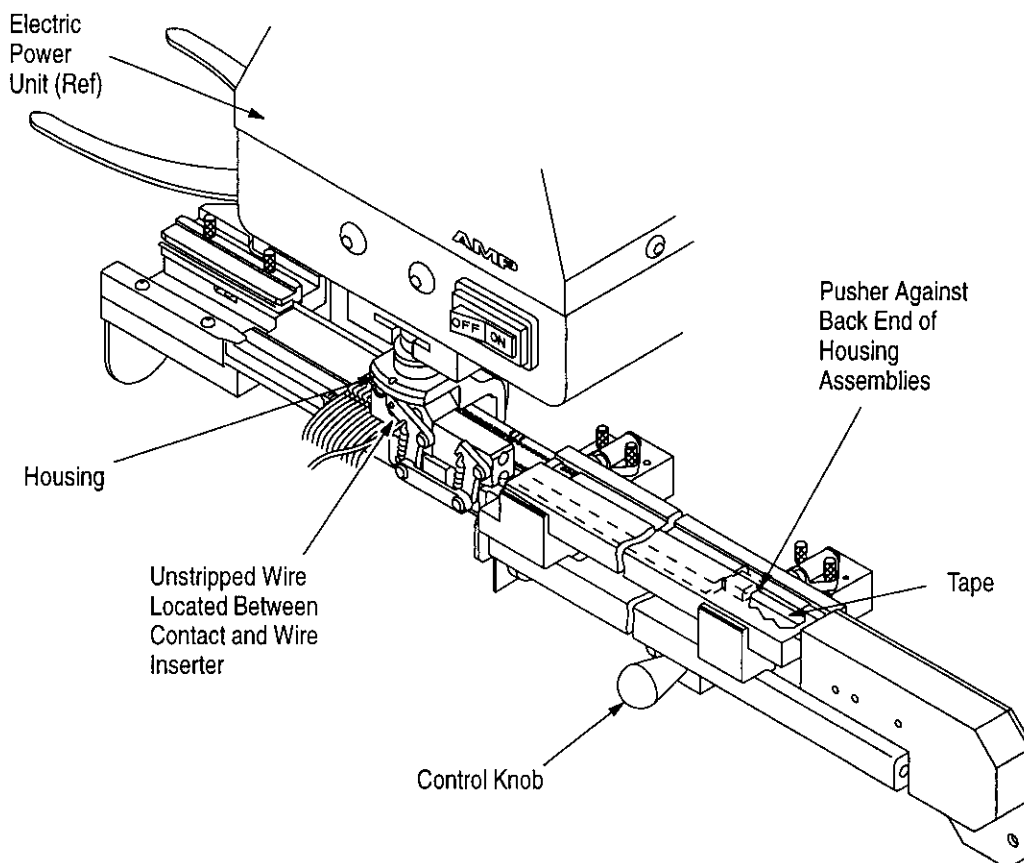

Figure 5
6. Move control knob to the right so that the pusher is against the back end of the housing assemblies. Refer to Figure 5.
7. Move control knob to the right so that the pusher is against the back end of the housing assemblies. Refer to Figure 5.
4. Insert stripped wire into the funnel area (located between the contact and the wire inserter) until it bottoms on the wire guide. See Figure 5.
Advancement of the connectors is performed by a thin metal tape (PN 764975-3 – see Figure 5) that is similar to the tape blade of a pocket-size tape measure. This tape may become bent or kinked over time and should be replaced, when necessary, to ensure smooth connector feed operation. Refer to Figure 8 and use the following procedures for tape replacement.